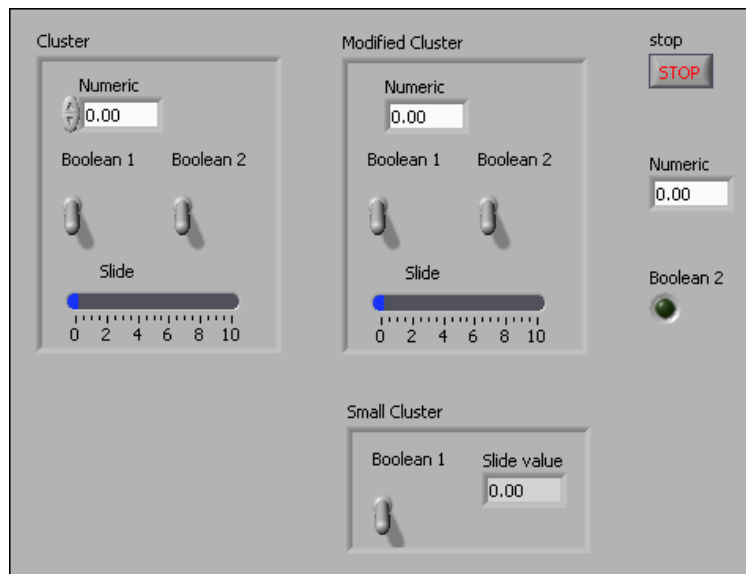

Figure 6.7
1. Open a blank VI and build the front panel in Figure 6.7.
- e. Copy **Modified Cluster** and relabel it to create **Small Cluster**. Remove the second toggle switch and horizontal fill slide indicators. Relabel the numeric indicator to **Slide value**. Resize the cluster as shown in Figure 6.7.